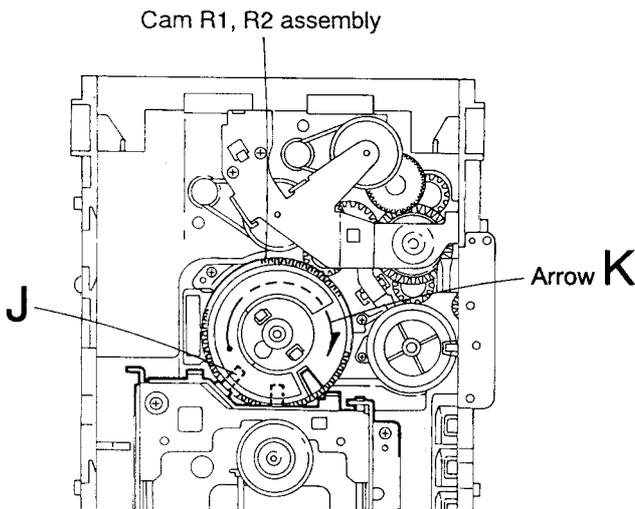

Fig.5-45
**Removing the CD mechanism** (See Figs. 5-45 and 5-46)
1. For dismounting only the CD mechanism without removing the CD mechanism assembly, align the shaft "J" of the CD mechanism assembly to the position shown in Fig. 5-45 while turning the cam R1 and R2 assembly in the arrow direction "K".